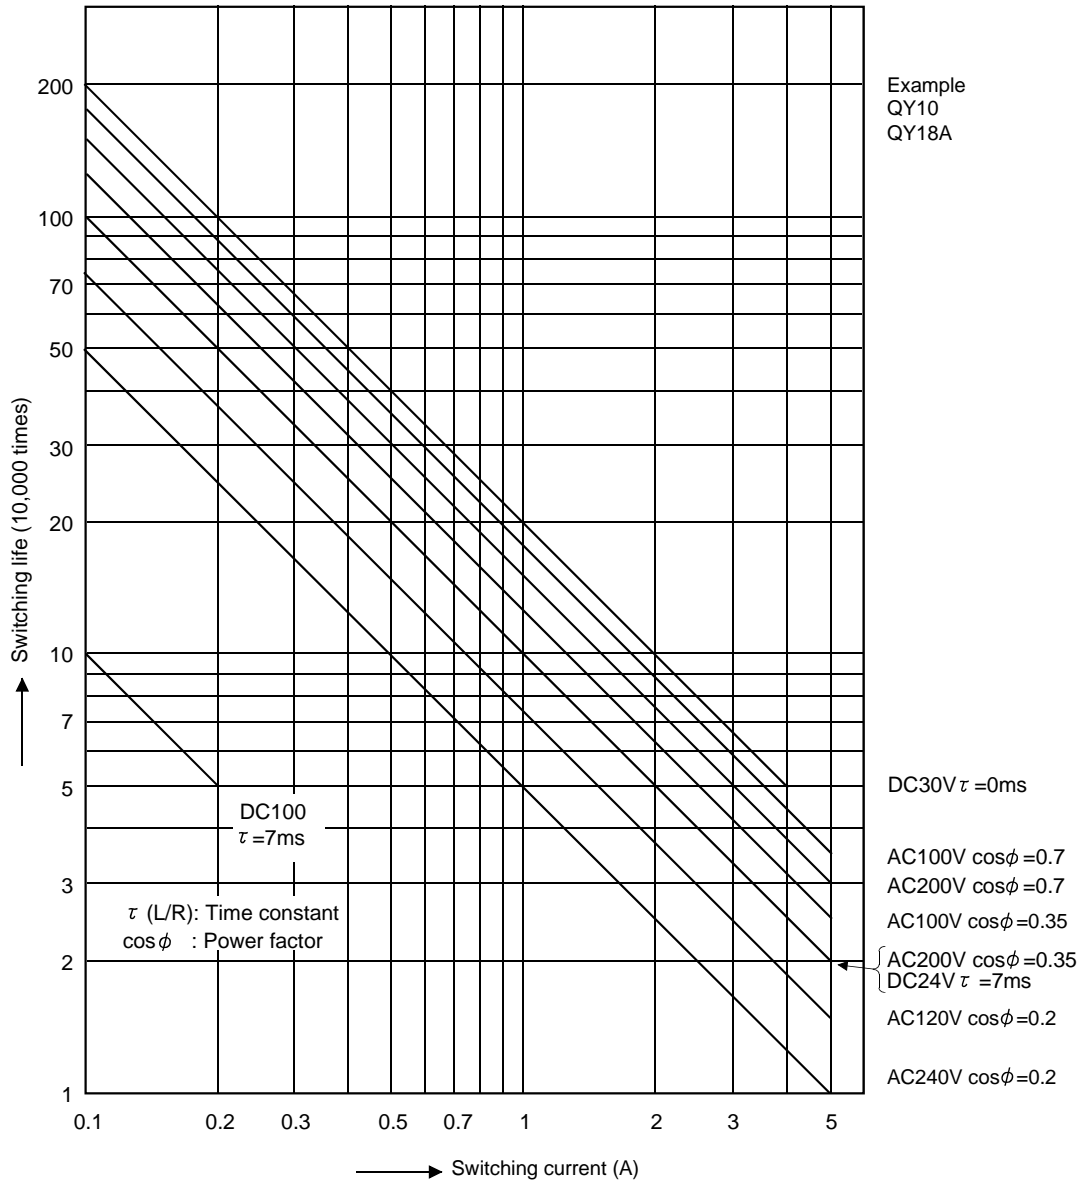

Figure 3 Electrical life of a relay
There are two types of the life: mechanical life depending on the number of switching times and electrical life relying on switching current value and inductance of the load (L). Figure 3 shows the typical electrical life curve. For details, refer to User's Manual of each module.